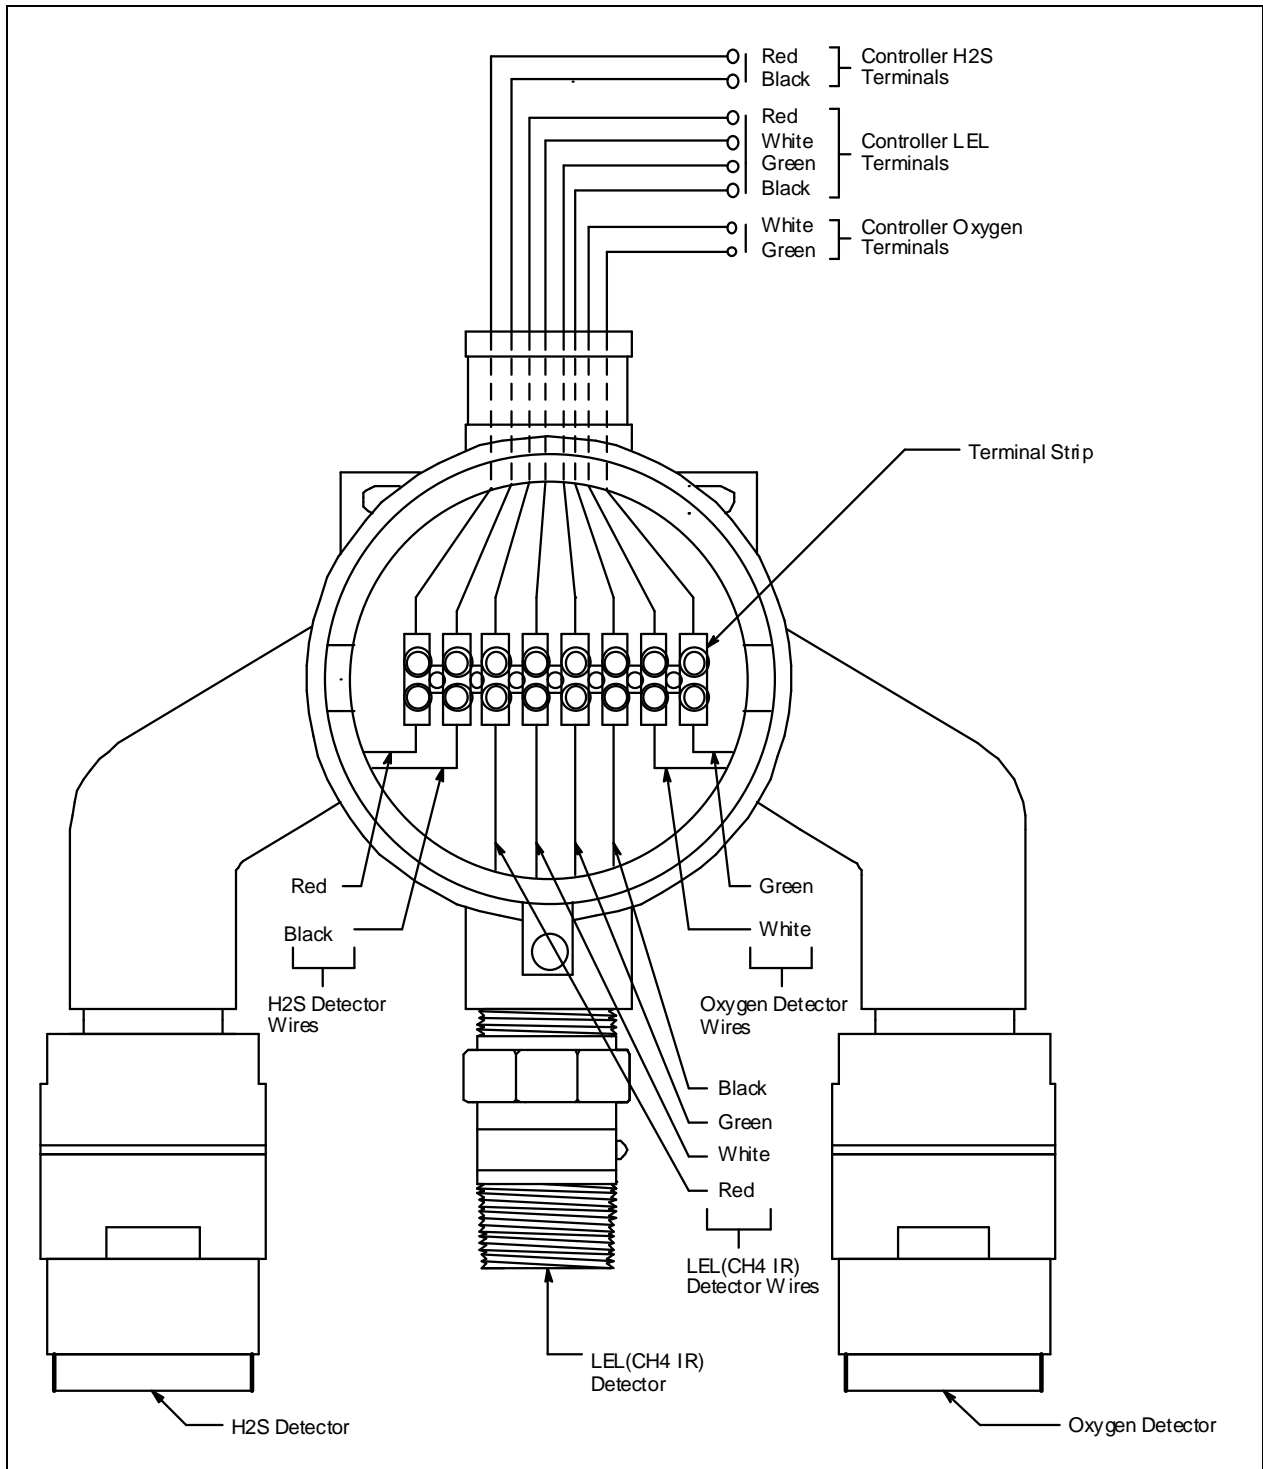
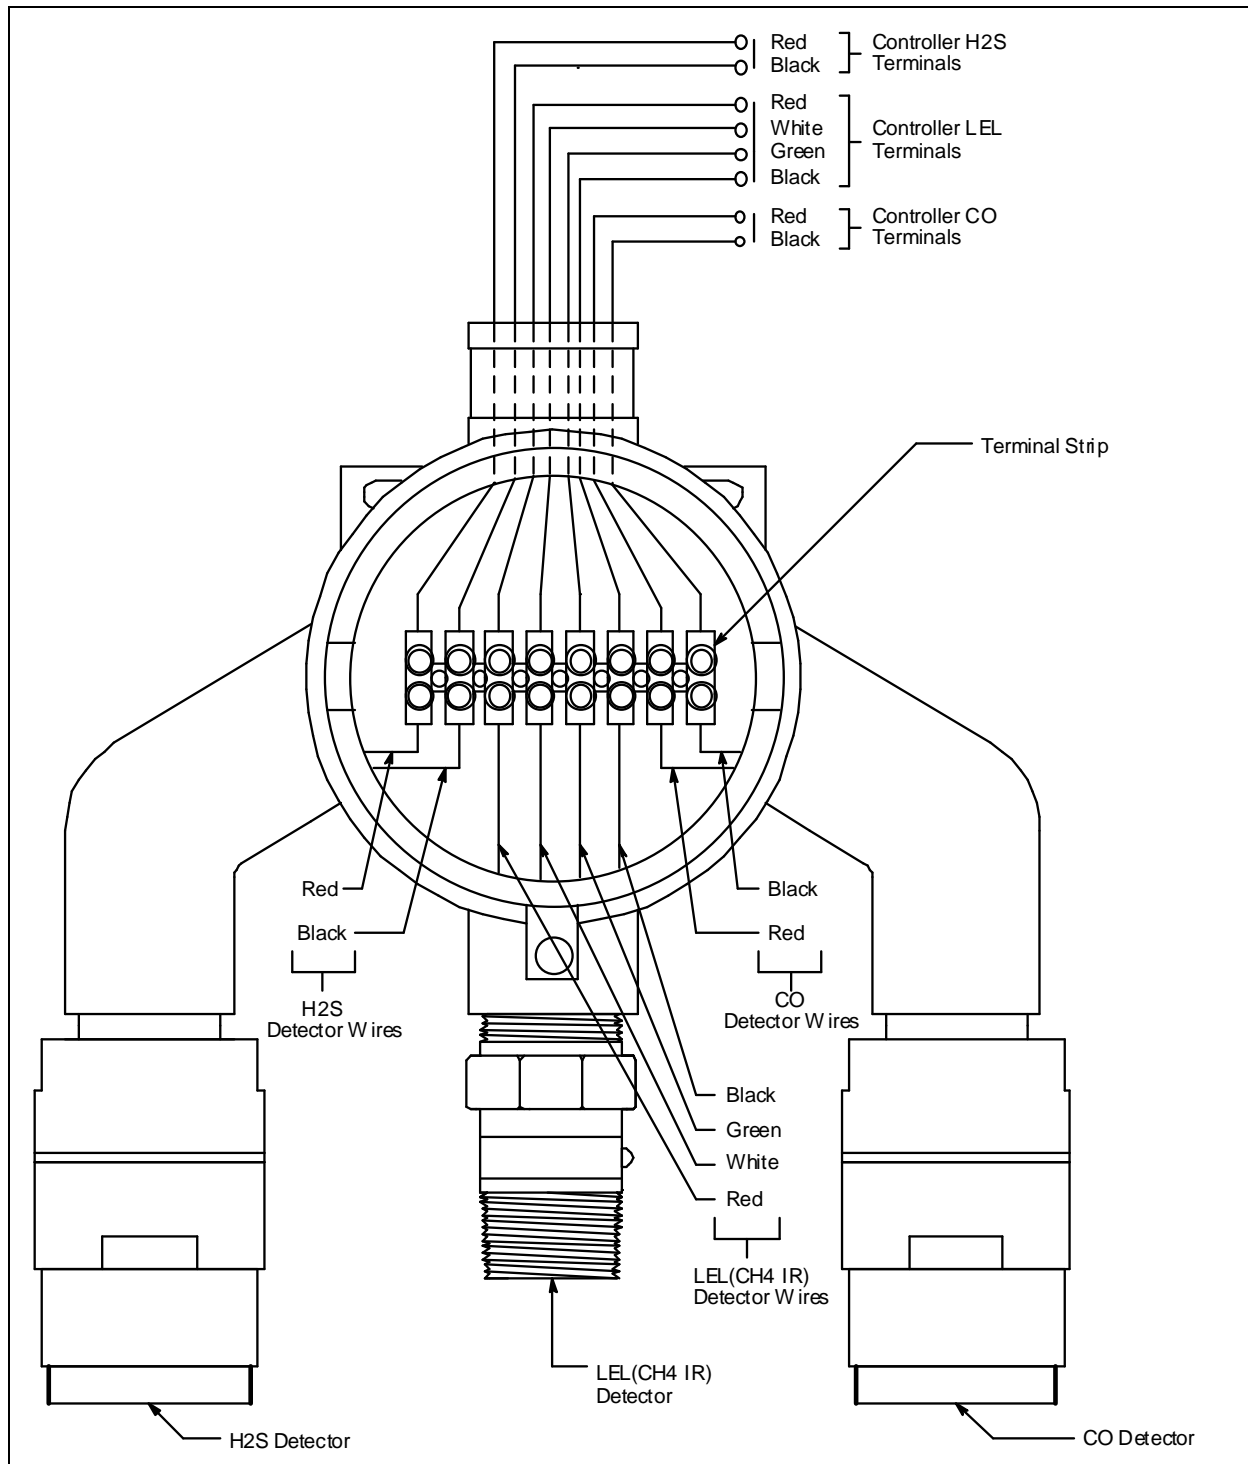

Figure 11: Wiring the 65-2483RK-01 to a Controller
Figure 16: Wiring the 65-2483RK-06 to a Controller
8. Connect the wires to the applicable controller terminal strips. See the controller operator's manual and the controller's detector head specification sheet. Also see Figure 11-Figure 16 for wiring diagrams for each detector model.
- Connect the detector leads to the terminal block the same way the old detector was wired. See the controller operator's manual and the controller's detector head specification sheet for the IR LEL HC detector to verify the connections are correct. Also see Figure 11-Figure 16 for wiring diagrams.
7. Connect the detector leads to the terminal block the same way the old detector was wired. See the controller operator's manual and the controller's detector head specification sheet for the oxygen detector to verify the connections are correct. Also see Figure 11-Figure 16 for wiring diagrams.